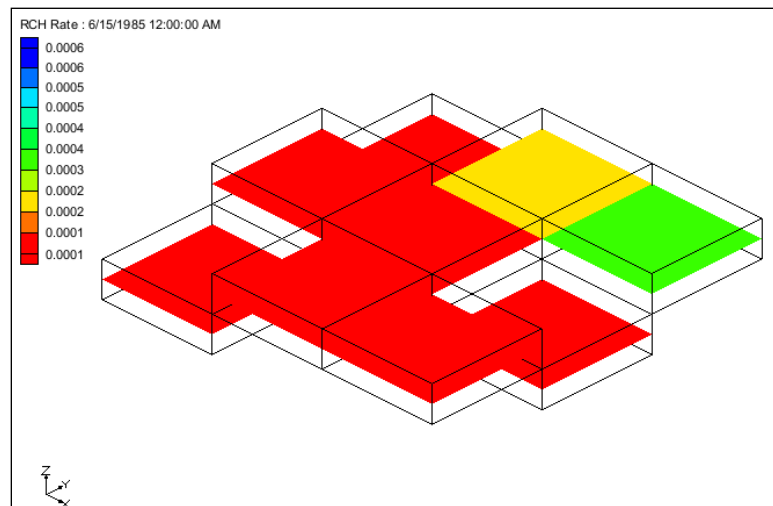

Figure 8 RCH rate contours
1. In the Project Explorer, select “ RCH Rate” to change the view (Figure 8).
The view will look like Figure 8.